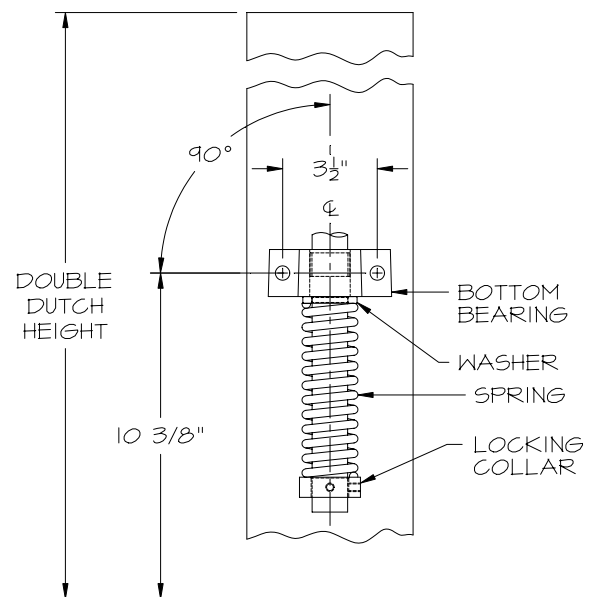

FIG. 14
- * **Measure and mark 9-3/8"** up from overall Double Dutch height mark along plumb line (Figure 14).
- b. **Place bottom hinge hardware onto shaft** in the following order (Figure 14):